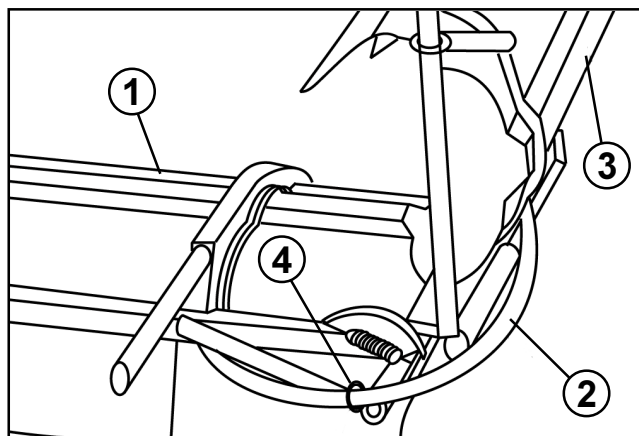
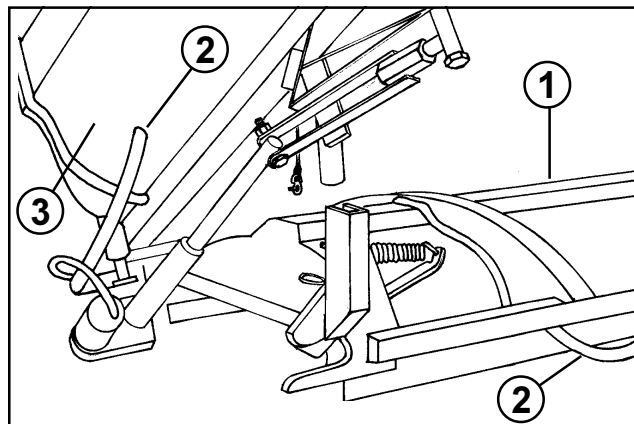

FIG 6
FIG 7
2. Route Right and Left Boom Feed Hoses as shown in FIG. 6 through ring at wing pivot joint and through Boom Center Section (FIG. 7) ensuring that there is adequate hose length at the Boom Extension Pivot Joint so that the hose is not stretched.